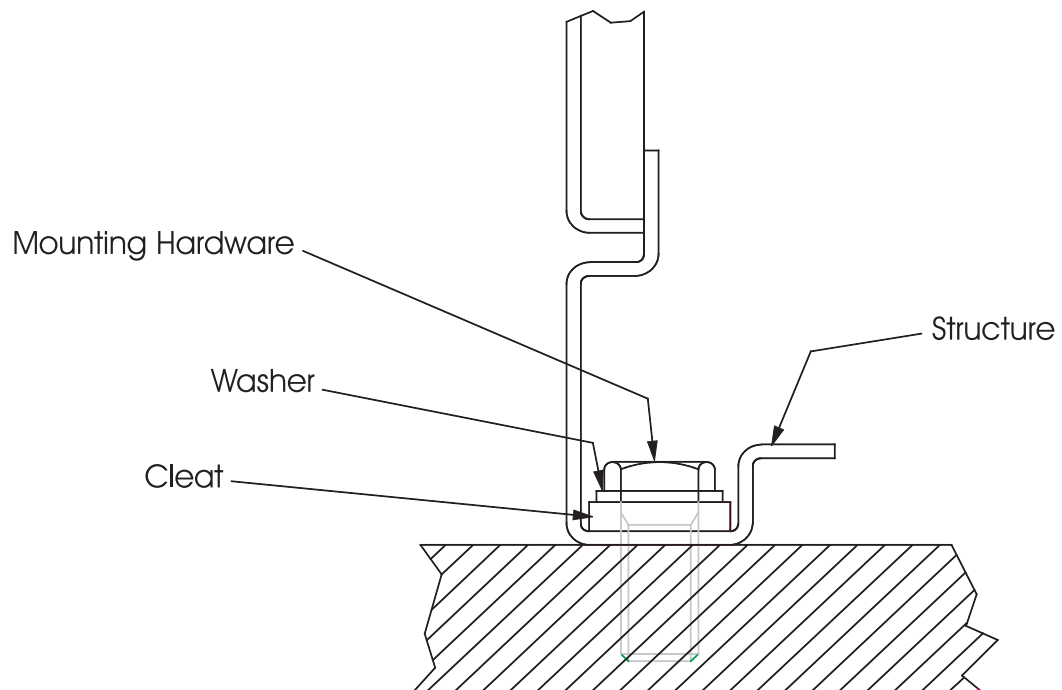

Figure 4-5 Seismic Tested and Approved Product Mounting Instructions
- Step 3:** Bolt the enclosure to the base. Use separate cleats (Option 42 only) if Seismic UBC Zone 4 certification is desired (Figure 4-5), and secure with 1/2-13 UNC Grade 5 hex bolts.